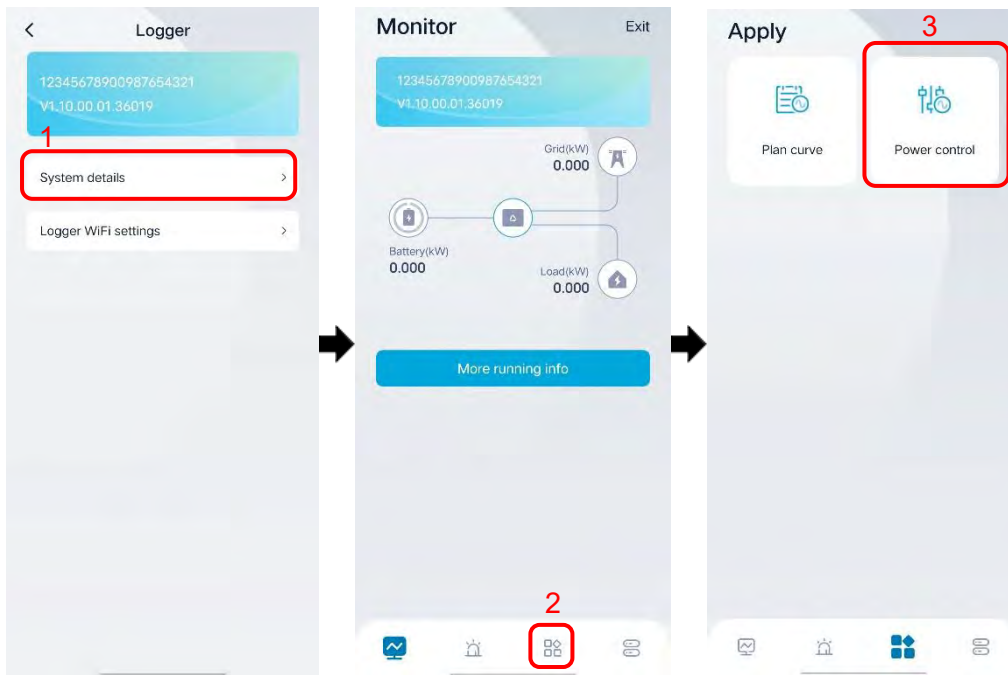

Figure5-20 Setting procedure of power control
- Step 1 Tap the **System Details** in home page (as “1” shown in Figure5-20) to enter the system monitoring page.
- Step 2 Tap the bottom icon  (as “2” shown in Figure5-20) to enter the application page.